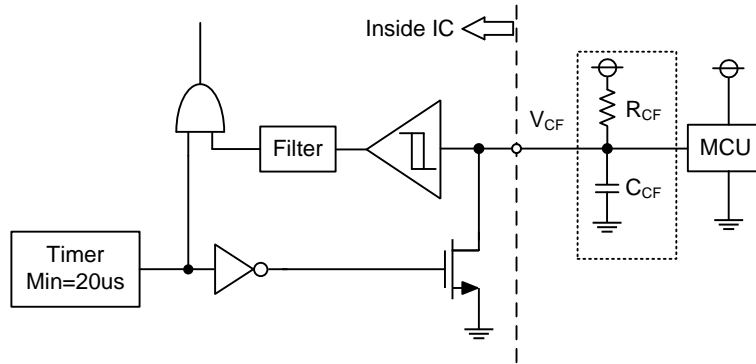

Figure 4. V_{CF} Output Circuit
- (1) If the control GND is connected with the power GND by common broad pattern, it may cause malfunction by power GND fluctuation. It is recommended to connect the control GND and power GND at a single point (N1), near the terminal of the shunt resistor.
- (2) There are two COM pins in the IPM but it is recommended to only use the (15) COM pin to minimize SC detection noise.
- (3) A zener diode D1 (24V/1W) is recommended between each pair of control supply pins to prevent surge destruction.
- (4) Prevention of surge destruction can further be improved by placing the bus capacitor as close to pin P and N1 as possible. Generally a 0.1-0.22 μ F snubber capacitor C3 between the P-N1 terminals is recommended.
- (5) Selection of the R1*C4 filter components for short-circuit protection is recommended to have tight tolerance, and is temperature-compensated type. The R1*C4 time constant should be set such that SC current is shut down within 2 μ s; (typically 1.5-2 μ s). R1 and C4 should be placed as close as possible to the C_{SC} pin. SC interrupting time may vary with layout patterns and components selection, therefore thorough evaluation in the system is necessary.
- (6) NTC signal line should be pull up to the positive side of the 5V/3.3V logic power supply with a proper resistor R2.
- (7) To prevent malfunction, traces A, B, and C should be as short as possible.
- (8) It is recommended that all capacitors are mounted as close to the IPM as possible. (C1: electrolytic type with good temperature and frequency characteristics. C2: ceramic type with 0.1-2 μ F, good temperature, frequency and DC bias characteristics.)
- (9) Input drives are active-high. There is a minimum 3.5kΩ pull-down resistor in the input circuit of IC. To prevent malfunction, the layout to each input should be as short as possible. When using RC coupling circuit, make sure the input signal levels meet the required turn-on and turn-off threshold voltages.
- (10) V_{CF} output is open drain type. It should be pulled up to MCU or control power supply (max= 5±0.5V), limiting the current (I_{CF}) to no more than 1mA. I_{CF} is estimated roughly by the formula of control power supply voltage divided by the pull-up resistor R3. For example, if control supply is 5V, a 10kΩ (over 5kΩ) pull-up resistor R3 is recommended.
- (11) If only a pull-up resistor R3 of 10kΩ connected to V_{CF} pin, the fault output pulse width is fixed at minimum 20us. If a capacitor C5 is connected with a pull-up resistor R3, the fault output pulse width can be controlled according to the resistor value and capacitor value. For the design guide, please refer to the Figure 4.
- (12) Direct drive of the IPM from the MCU is possible without having to use opto-coupler or isolation transformer.
- (13) The IPM may malfunction and erroneous operations may occur if high frequency noise is superimposed to the supply line. To avoid such problems, line ripple voltage is recommended to have dV/dt ≤ ±1V/μs, and Vripple ≤ 2Vp-p.
- (14) It is not recommended to use the IPM to drive the same load in parallel with another IPM or inverter types.